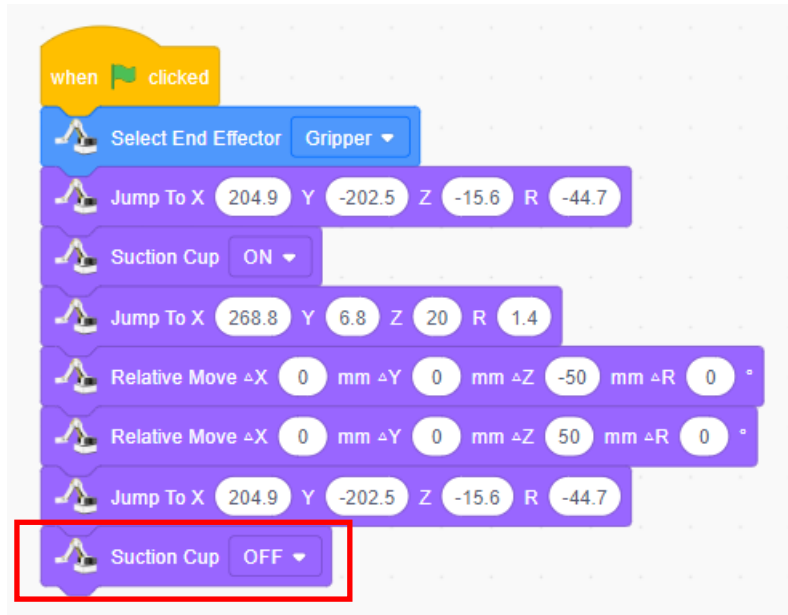

Figure 1.23 Releasing the stamp
Step 4: Release the stamp. Click the "**Motion**" tab, drag the "Suction Cup" block, click the drop-down triangle and choose "Release", as shown in Figure 1.23.